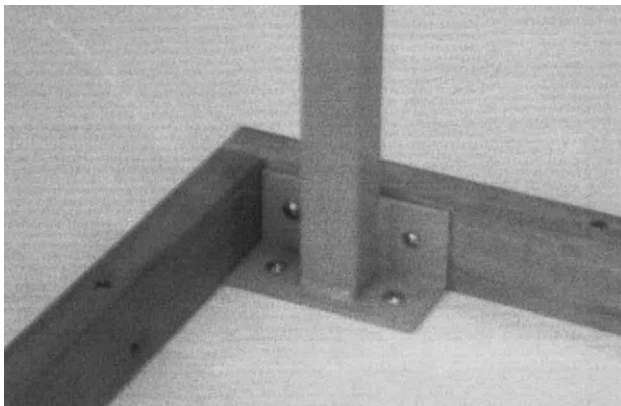

Figure 3a
5. Attach both legs with enclosed wood screws. Refer to Figures 3a and 3b.